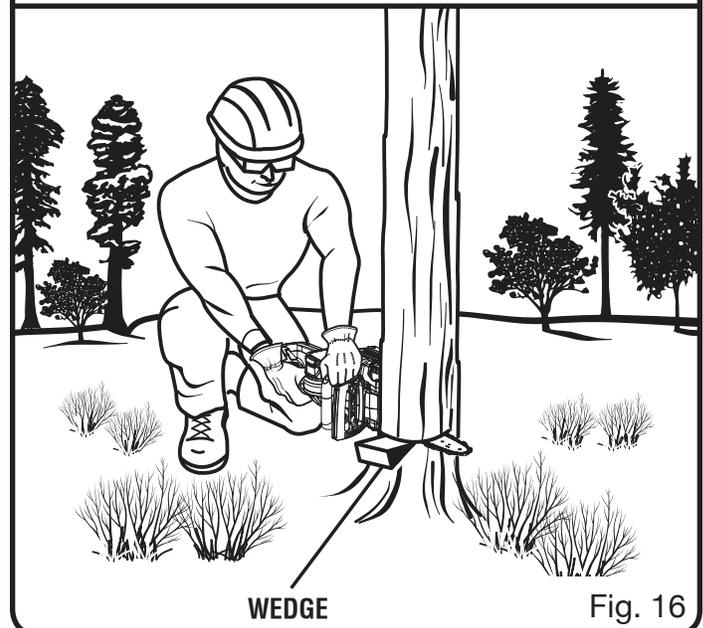

Fig. 16
- On large diameter trees, stop the back cut before it is deep enough for the tree to either fall or settle back on the stump. Then insert soft wooden or plastic wedges into the cut so they do not touch the chain. The wedges can be driven in, little by little, to help jack the tree over. See Figure 16.